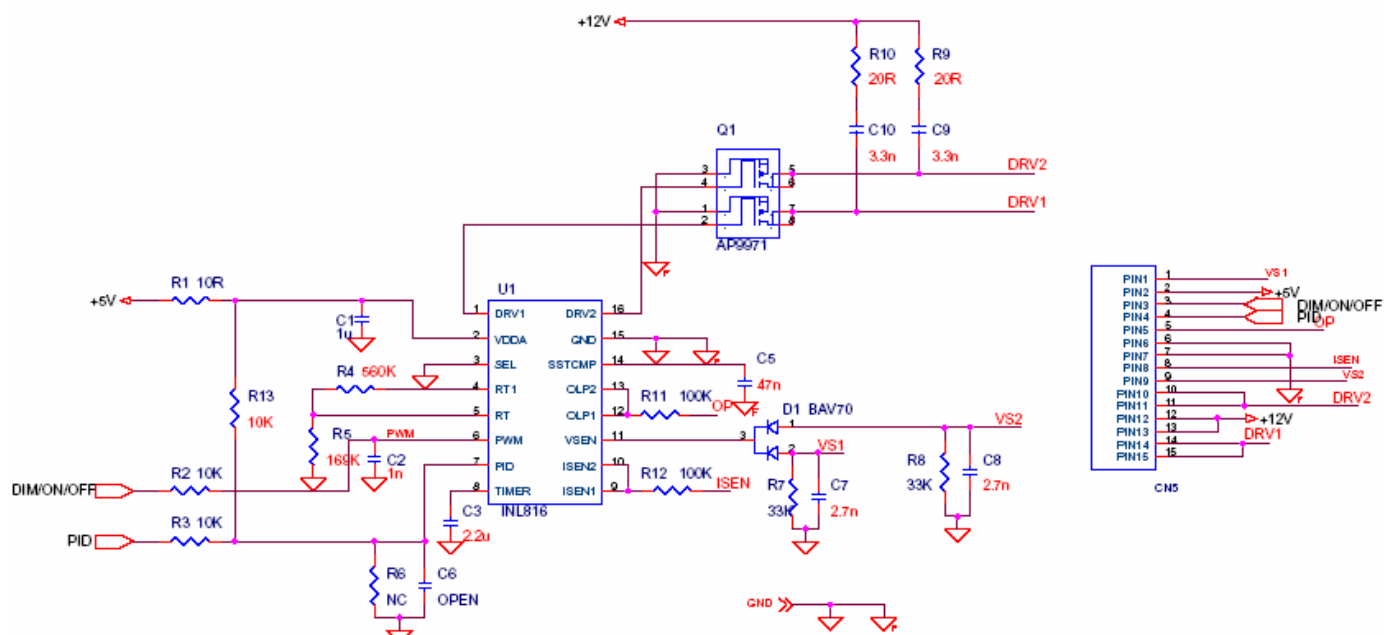

Fig.2
2.1.1 Inverter Control circuit operations:(fig.2)